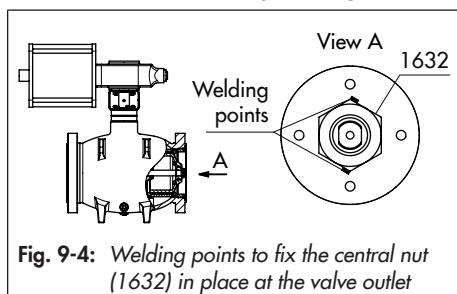

Fig. 9-4: *Welding points to fix the central nut (1632) in place at the valve outlet*
2. Remove the welding points on the central nut (1632) at the valve outlet (see Fig. 9-4) and use a suitable tool (socket) to unscrew and remove the nut.
3. Place a special tool (see the 'Tightening torques, lubricants and tools' chapter in the Appendix) on the retaining ring (171). The retaining ring (171) is screwed to the valve body (5).
4. Use the special tool to unscrew the retaining ring (171) out of the valve body (5).
5. Pull the seat ring (70) out of the valve body (5). To do this, use the extraction threaded holes on the front face of the seat ring (70).
12. Reinsert the seat ring (70) into the valve body (5).
13. Replace the gasket (294) of the retaining ring (171) with a new one. During this process, clean the contact surfaces and apply lubricant to the new gasket.
14. Use the special tool to screw the retaining ring (171) back into the valve body (5). Only screw it in to the point where the outside surface of the retaining ring is flush with the flange face of the valve body.
15. Screw the nut (1632) back onto the plug stem (60) and tighten it.
16. Fix the nut (1632) in place with two welding points to prevent it from coming undone unintentionally (see Fig. 9-4).